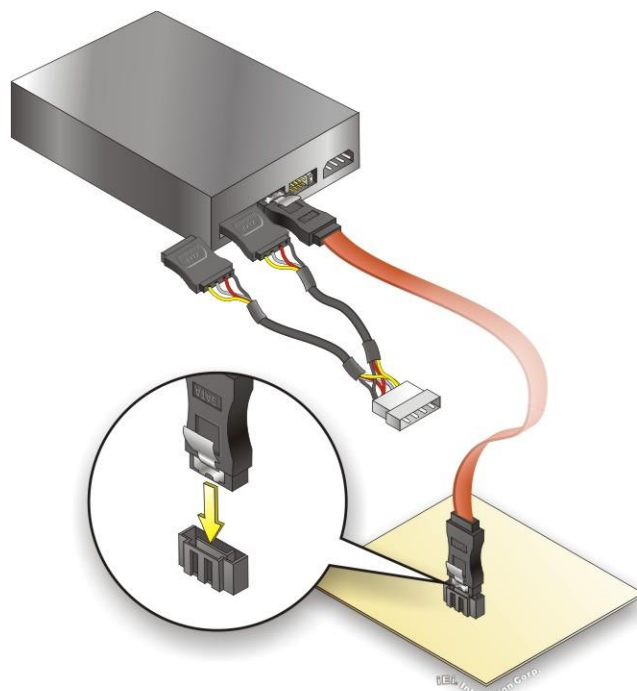

Figure 4-12: SATA Power Drive Connection
Step 3: Connect the cable to the SATA disk. Connect the connector on the other end of the cable to the connector at the back of the SATA drive. See **Figure 4-12**.
Step 4: Connect the SATA power cable. Connect the SATA power connector to the back of the SATA drive. See **Figure 4-12**.